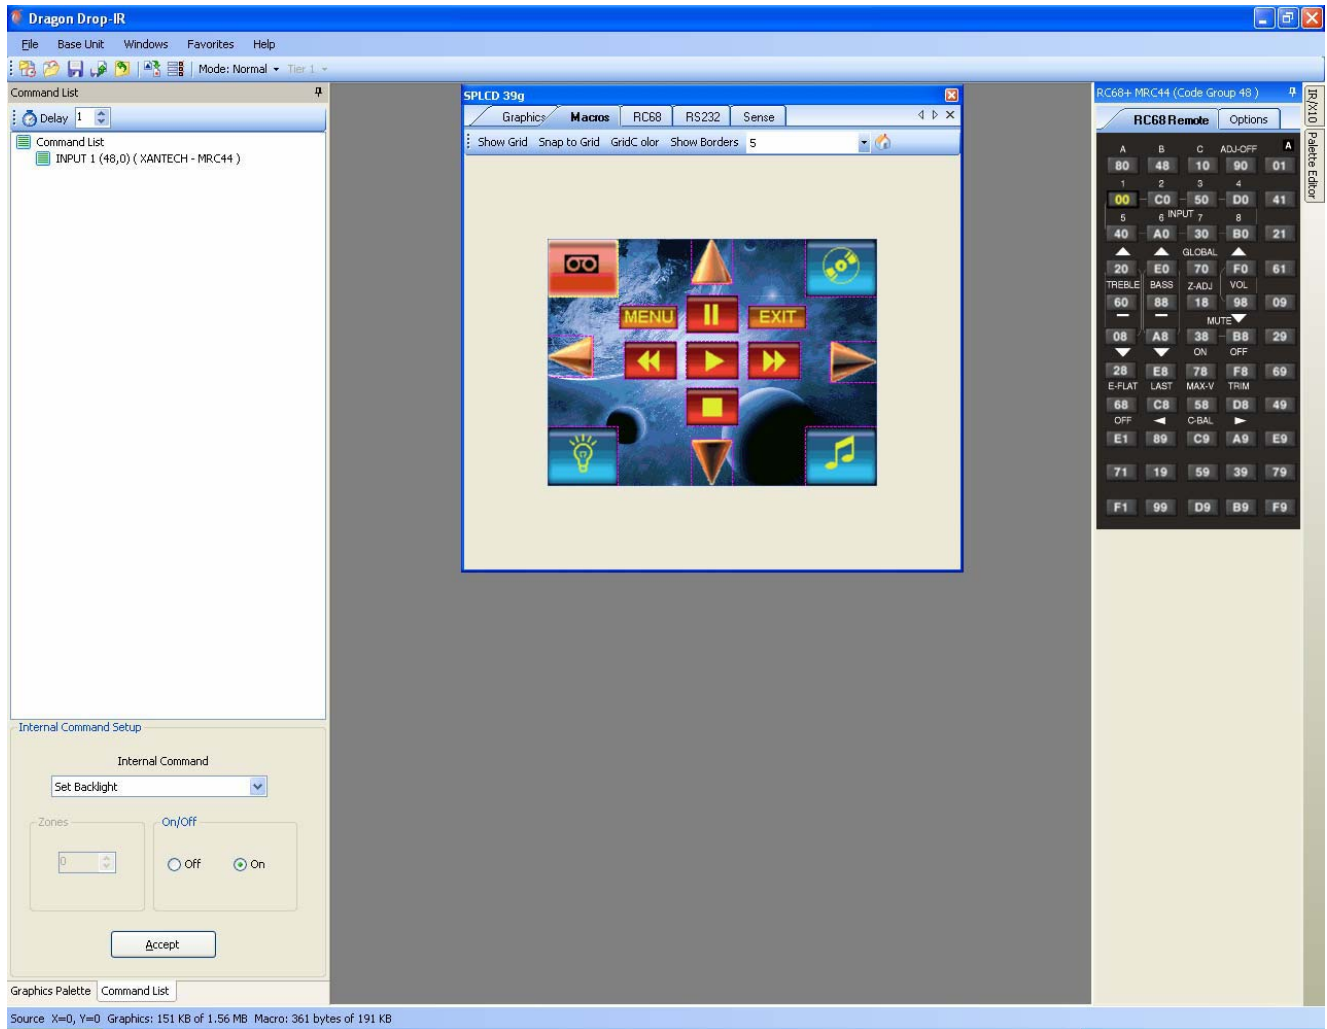

Figure 35 – Programming CSPLCD for MRC44 IR Control
8. Click on a Source Button GTL in the CSPLCD Systems Window that will select the component connected to INPUT 1 on the MRC44 (i.e. **CD** as shown in **Figure 35**).